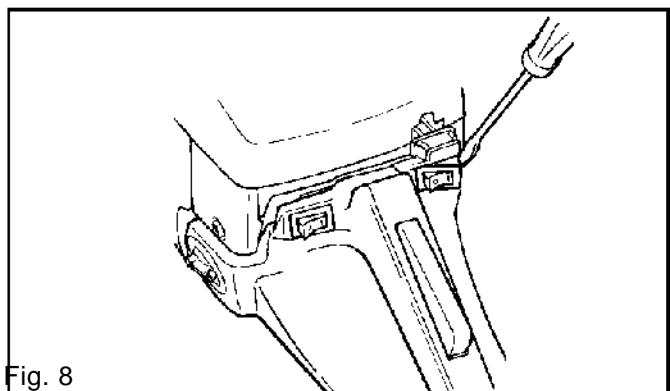

Fig. 8
2. Prie out the on/off switch with the help of a screwdriver. See fig. 8.
1. Remove the on/off switch and disconnect the leads. See fig. 8.